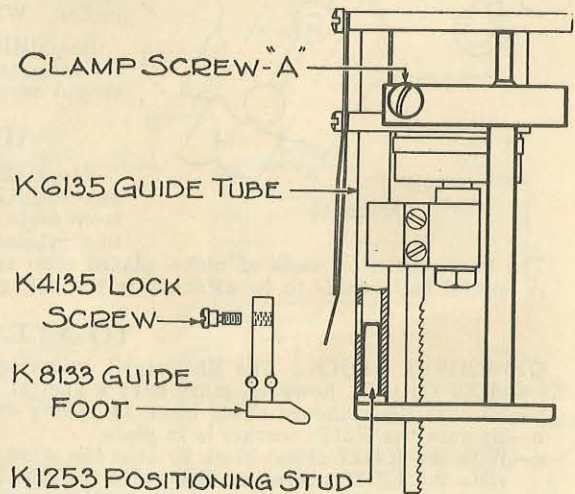

Figure 13
**D2—TO INSTALL.** First remove the K8133 guide foot (see figure 13) by unscrewing the K4135 lock screw and then pulling the guide foot out of the K6135 guide tube. Insert the K1253 Positioning Stud in the K6135 Guide Tube as shown in figure 13, as far as it will go. Lock the saw support in place by tightening equally the two clamp screws A.